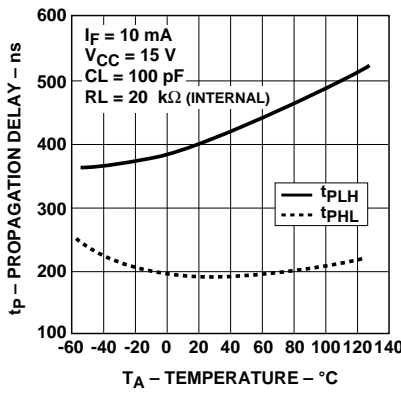

Figure 8. Propagation Delay with Internal $20 \text{ k}\Omega$ R_L vs. Temperature.
- Due to the tolerance of the internal resistor, and since propagation delay is dependent on the load resistor value, performance can be improved by using an external 20 k Ω 1% load resistor. For more information on how propagation delay varies with load resistance, see Figure 8.